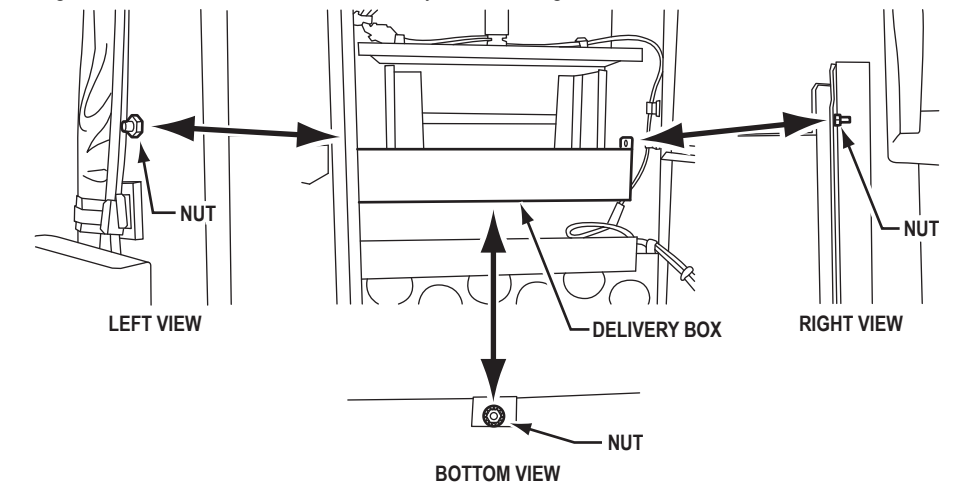

FIGURE 17. REMOVE THE DELIVERY BOX
2. Find the Delivery Box on the bottom right corner of the Front Door as viewed from behind the Front Door. Remove the Delivery Box from the Front Door by removing the mounting nuts on the right, bottom and left sides of the Delivery Box. See Figure 17.